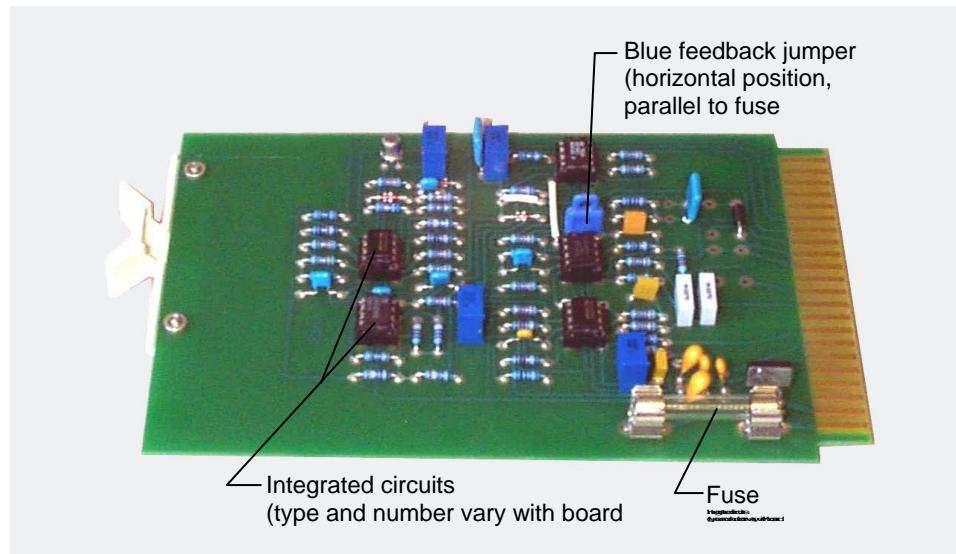

Fig. 6.4-2 A typical sine-wave driver board with the feedback jumper in the grounded position (an Energy board)
- b. Check the fuse (Figs. 6.4-2 and 6.4-3). Measure resistance across the fuse with an ohmmeter. **If resistance is greater than 1 Ω, the fuse needs to be replaced.**
- b. Note the position of the blue-colored feedback jumper (see Figs. 6.4-2, 6.4-3 and Table 6.4.1). The blue feedback jumper must be oriented correctly according to the feedback requirements of the slot that the board is being tested in.